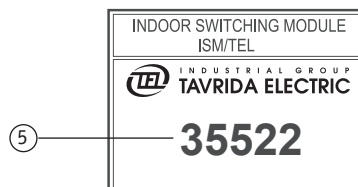

Figure 7
- Label 1 for manufacturers' and product information (Figure 7)